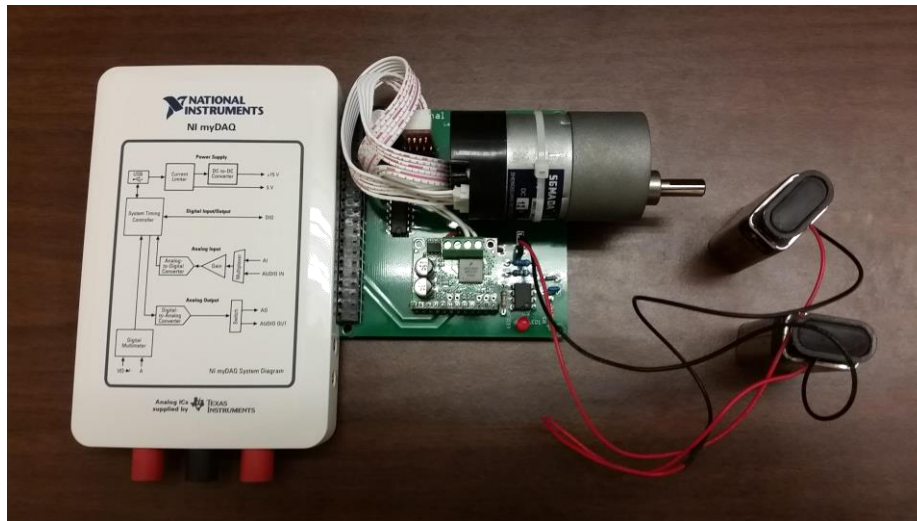
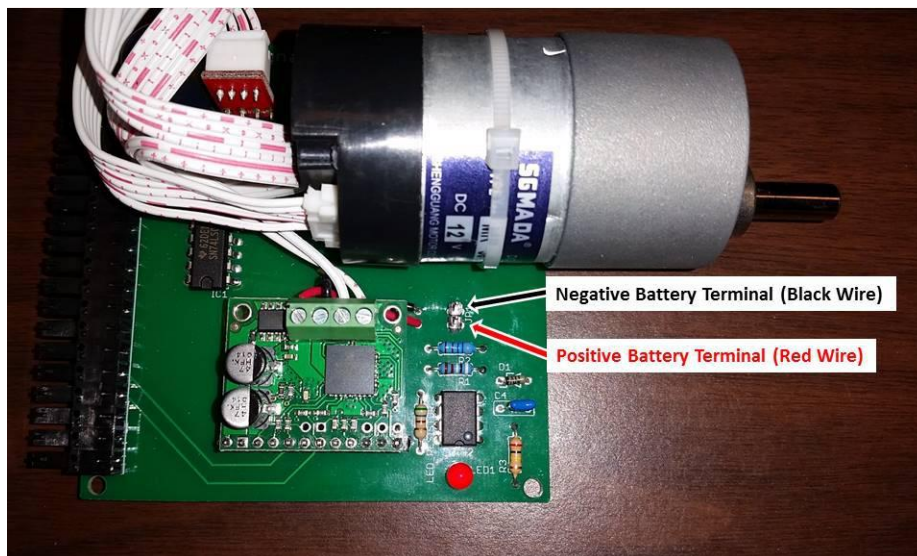

Figure 2: Overall setup of the myDAQ and motor controller.
Figure 3: Closeup showing connection of the battery pack.
Figure 2 shows the overall setup of the myDAQ, the printed circuit board (PCB) with attached motor, and the battery pack. Figure 3 shows where the terminals where the battery pack is connected. PC users can verify that your computer is seeing the myDAQ by starting the NI ELVIS Instrument launcher and opening the scope. You should see static.
1. Referring to Figures 2 and 3, plug the terminal strip type connector on the PCB into your myDAQ by aligning the outer edge pins. Then plug in the battery pack, making sure that you have the correct polarization. If you are unsure, the LED located near the bottom of the board should immediately blink once when unplugging the battery pack if it was plugged in correctly. Plugging it in the wrong way will not do immediate damage, but could damage the polarized capacitors if left plugged in for many minutes.